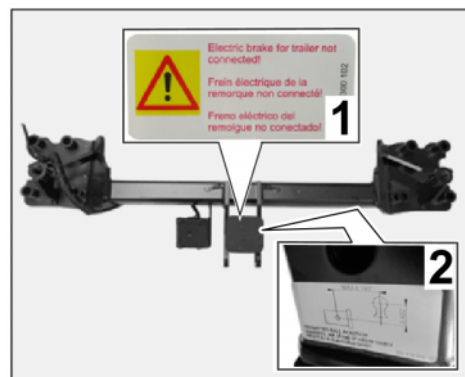

Figure 15
- 2.7.2 Affix sticker showing the warning “Electric Brake for Trailer not connected” on a clean surface at a clearly visible position next to the “Ball Position” sticker or the dashboard (⇒ *Figure 15*).